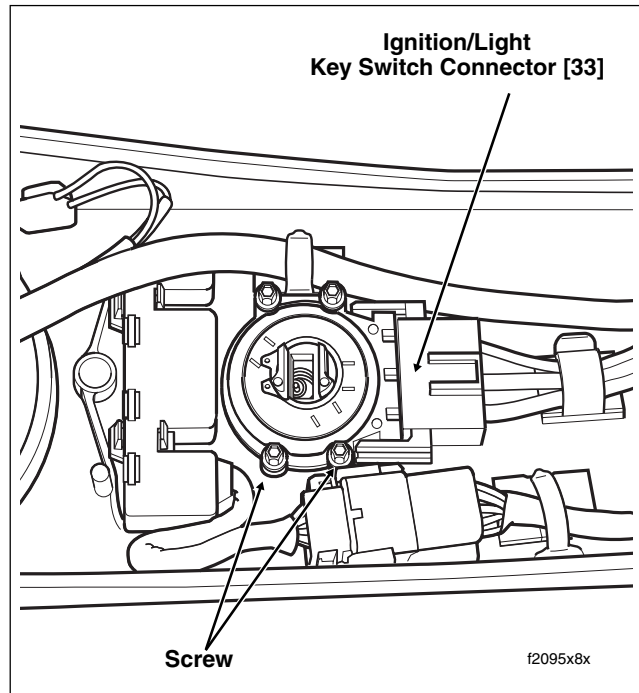

Figure 8-78. Instrument Console (FLHR/C)
7. Pull external latches outward to disconnect ignition/light key switch connector [33], 3-place Packard. See Figure 8-78.
1. Align holes in **new** switch with those in console. See Figure 8-78.